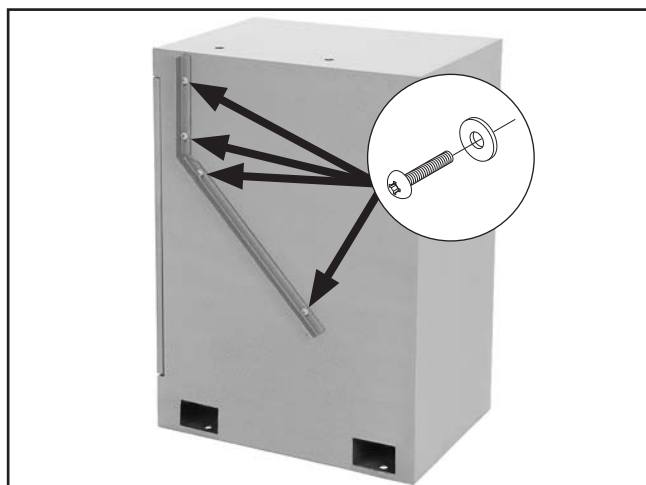

Figure 7. Cabinet stand center panel bracket installed (1 of 2).
1. Use eight #8-32 x 1/2" Phillips head screws and flat washers to attach the center panel brackets to the sides of the cabinet stands, as shown in **Figure 7**.